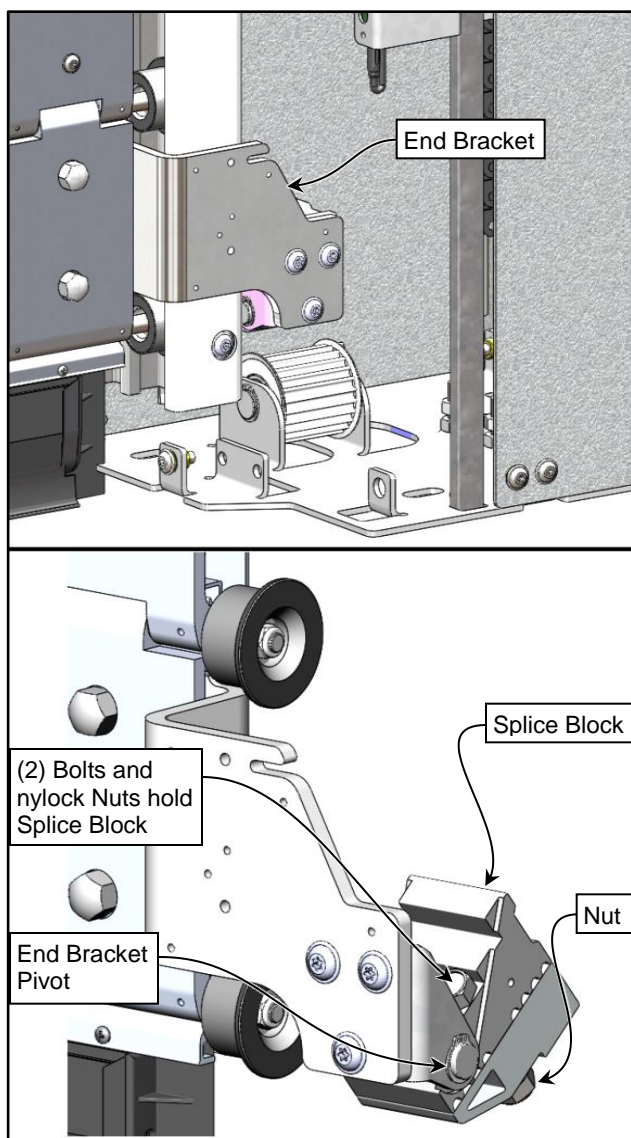

Figure 65
7. Loosen the hex head bolts on the end bracket to release the secondary drive belt from the splice block. The splice block pivots to allow the panels to enter the radius at the top of the side column. (See Figure 65)